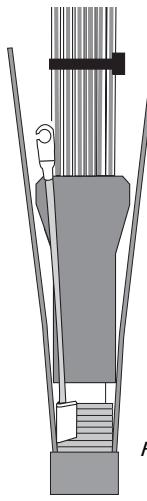

Figure 22
4. Begin shrinking the tube with the CV1981 hot-air gun on setting 6. Start at the end of the tube closest to the cable and work towards the transportation tubes. The seal is complete when the tube is completely shrunk around the transportation tubes. (See Figure 22)